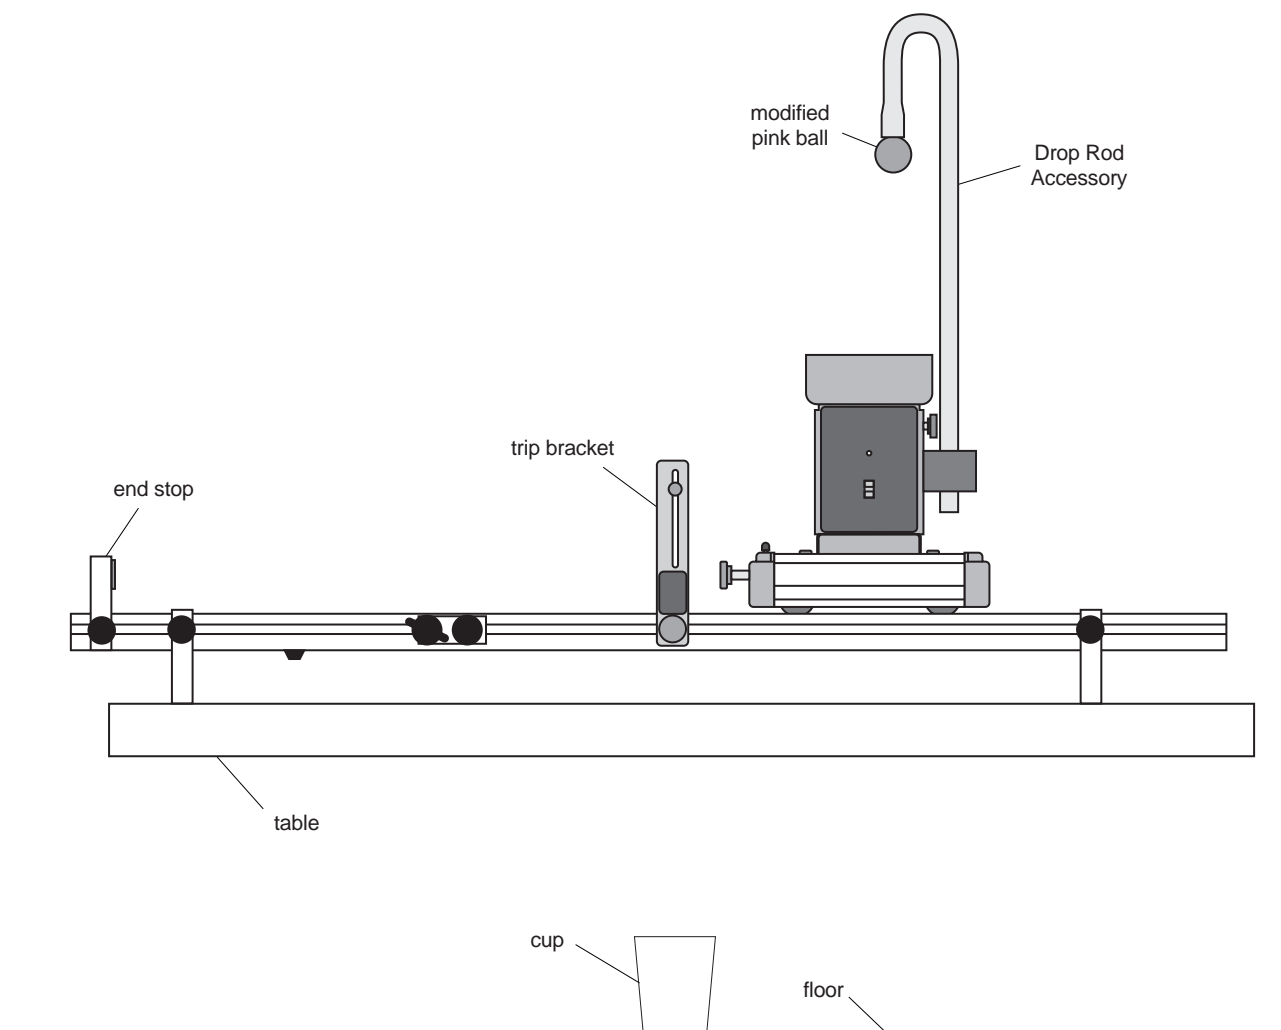

Figure 8.1: Bombing Run
- ② Align the track with the edge of the table.
- ③ Position the drop rod so that as the ball drops, it will miss the table and fall to the floor.
- ④ Position the photogate trip bracket near the middle of the track.
- ⑤ Place the cart on the track at the position of the trip bracket and place the cup on the floor under the drop rod. Pull the cart back to one end of the track, hang the ball on the drop rod, and push the cart. The ball will be dropped at the moment the cart passes over the cup. See Figure 8.1.
- ⑥ Discuss with the students the reason the ball misses the cup.
- ⑦ Move the trip bracket back and try it again.